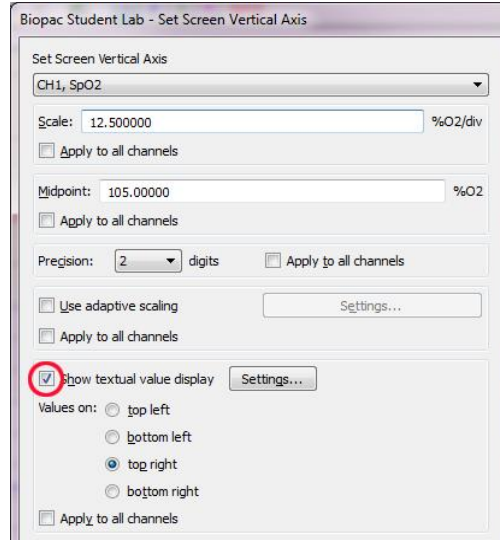

Figure 5
- It may be useful to enable **textual value display** in order to show the numerical values for SpO2 during the recording. This option is not available in software prior to BSL 4.0. To enable, position the arrow cursor over the numerical values in the vertical scale region and click the mouse button. The dialog shown in Figure 5 will appear. Check the “**Show textual value display**” box and click “**OK**” to close the dialog.